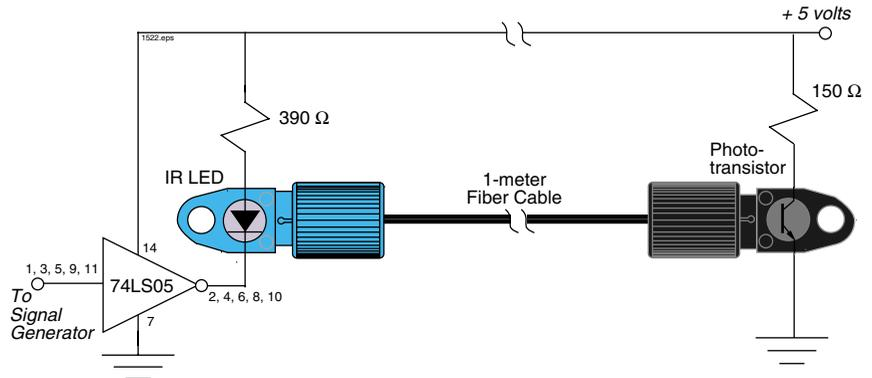

Figure 7.1 Test circuit for measuring rise and fall times of various light sources and photodetectors in Activity VII.
1. On your solderless breadboard assemble the circuit diagram shown in **Figure 7.1**. The multiple pin numbers on the input and output of the IC shown in **Figure 7.1** are five gates in parallel, drawn as one. Use the data sheet provided in the Appendix to identify the input and output pins on the 74LS05. Do not connect the signal generator to pin 1 of the 74LS05 IC yet.
2. Begin this activity by using the infrared LED housing as the light source in **Figure 7.1**. (The photo transistor is already in a device housing so we will characterize that photodetector first.)